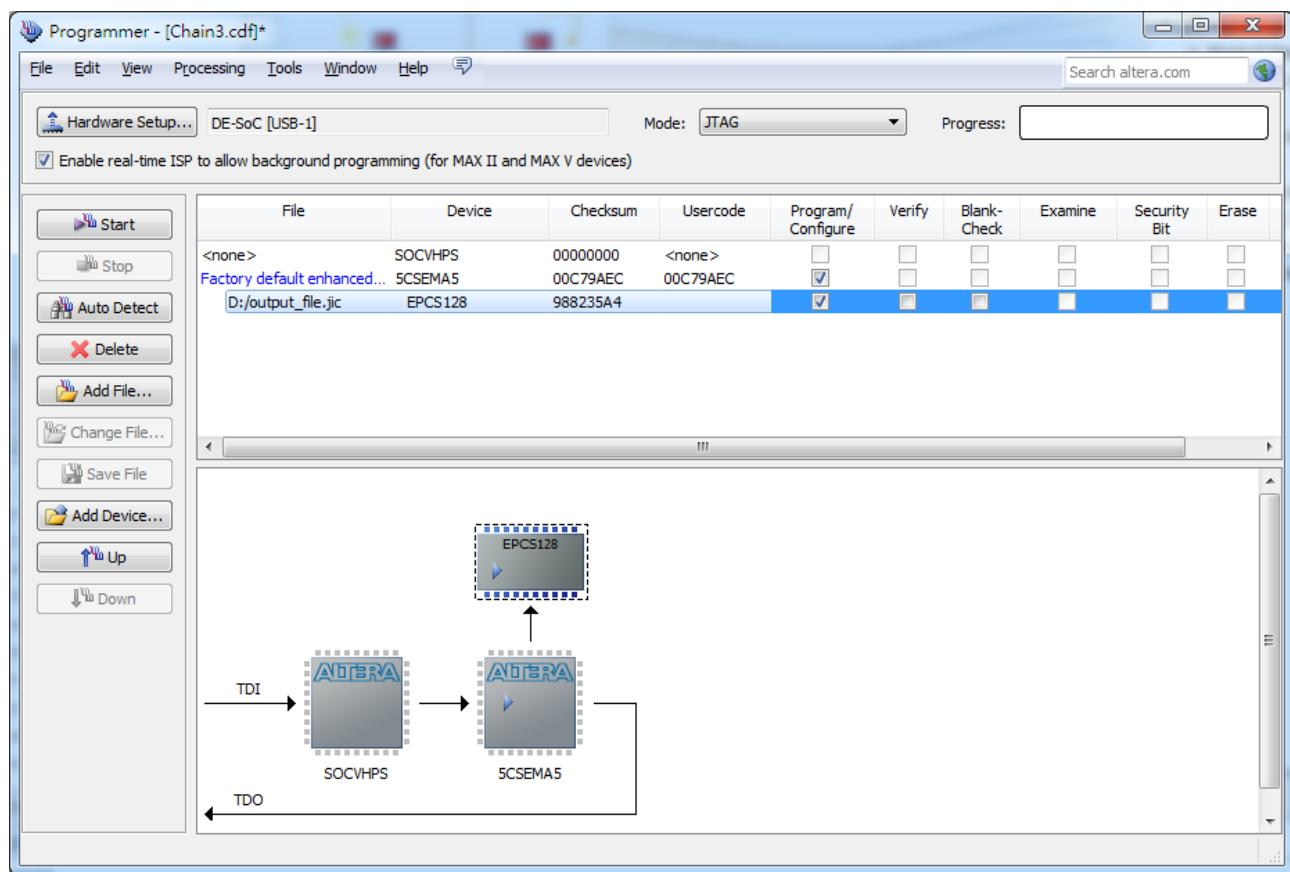

Figure 8-7 Quartus II programmer window with one .jic file
5. Program the EPICS device by clicking the corresponding **Program/Configure** box. A factory default SFL image will be loaded, as shown in **Figure 8-7**.